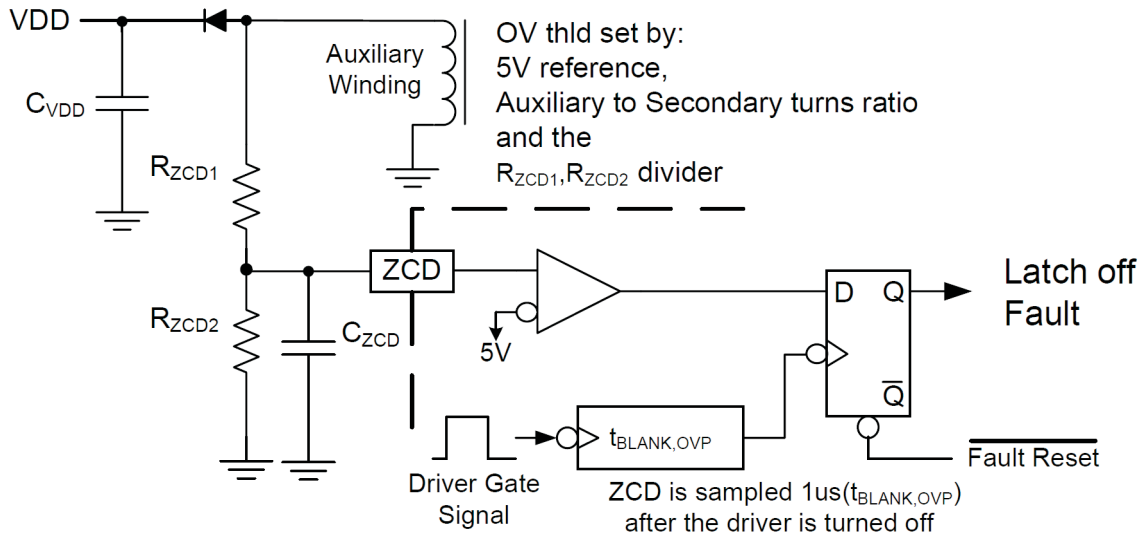

图 34. Output Over-Voltage Protection with ZCD Pin
The output over-voltage (OV) threshold is set using the turn ratio of the auxiliary winding to the output secondary and a resistive divider into the ZCD input pin. The UCC28610 will always enter a latched-off state if it detects an OV condition. The VDD supply must cycle below the fault reset threshold to re-start in order to recover. The functionality of the over-voltage detection function is shown in 图 34.